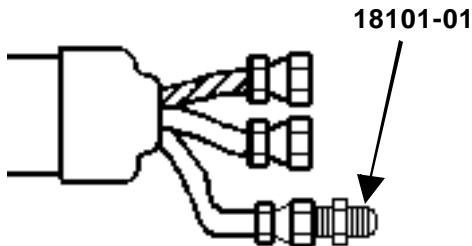

Fig. 8
7. Attach Air Connector Fitting, P/N 18101-01, to Whip Hose Air Hose. Connect a clean, dry air source to one end of the Air Connector Fitting. Tighten securely. (see Fig. 8)